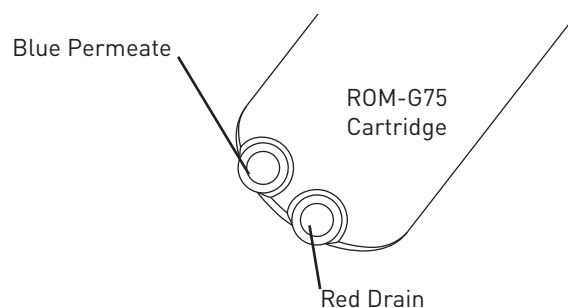

Figure 11
3. Insert the tube into the red drain port at the bottom of the cartridge, Figure 11. Push it in until the mark is flush with the quick-connect fitting.
6. Insert the tube into the blue permeate port at the bottom of the ROM-G75 Cartridge, Figure 11. Push it in until the mark is flush with the quick-connect fitting.